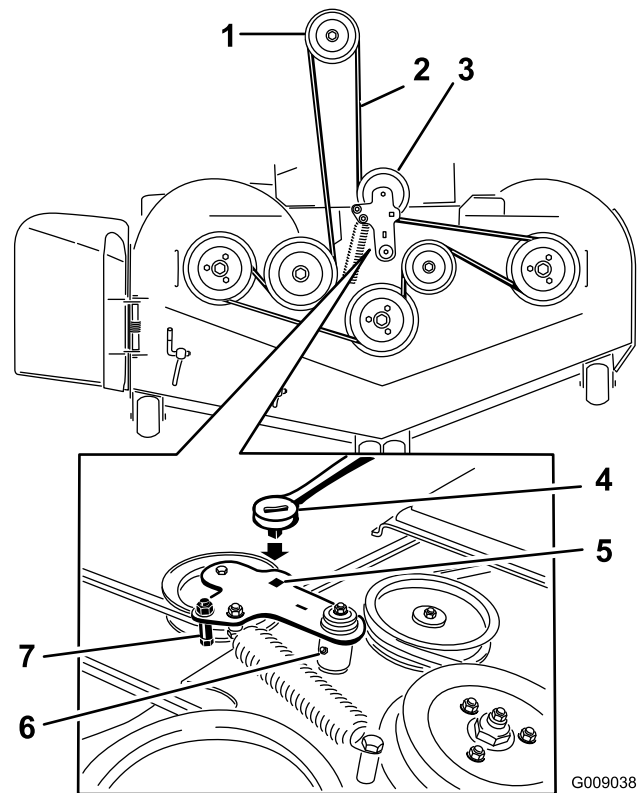

Figure 103
5. Lift up the floor pan and insert a ratchet into the square hole in the deck idler (Figure 103).
6. Rotate the deck idler clockwise and remove the mower belt (Figure 103).